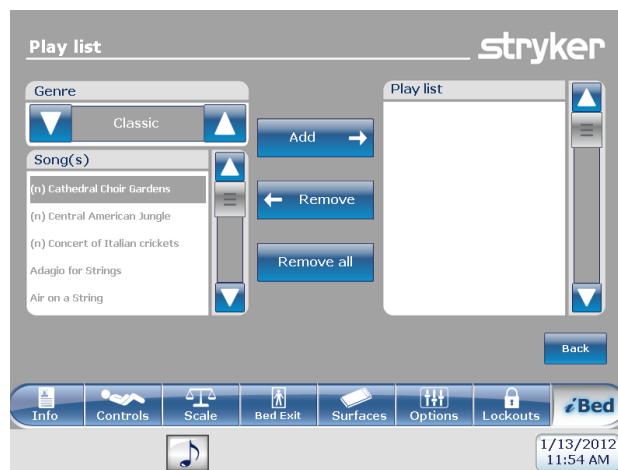

Figure 109: Play list
Tap the up and down arrows to select a genre (A) (Figure 109 on page 93).
Tap the up and down arrows to scroll through the available songs in the **Song(s)** area (B) (Figure 109 on page 93).
**Note:** The song that is currently selected is highlighted in gray (C) (Figure 109 on page 93).
Tap **Add** to add a song from the **Song(s)** area (B) to the **Play list** area (D) (Figure 109 on page 93).
Tap **Remove** to remove a song from the **Play list** area (D) to the **Song(s)** area (B) (Figure 109 on page 93).
Tap **Remove all** to remove all songs from the **Play list** area (D) to the **Song(s)** area (B) (Figure 109 on page 93).
**Note:** A music note icon appears at the bottom of the touch screen when music is playing (E) (Figure 109 on page 93).
To return to the **Sound therapy** screen, tap **Back** (Figure 109 on page 93).